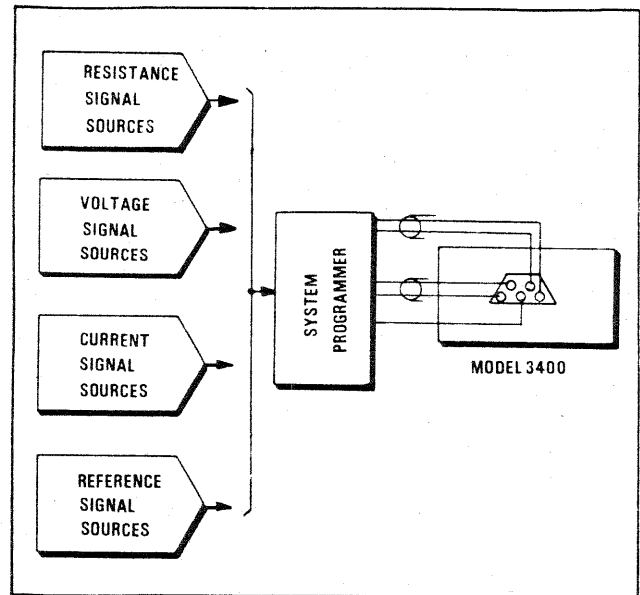

Fig. 2-8. Programming via Rear Input Connector
a. Input Signals may be connected to the rear input connector as shown in Figure 2-8, noting that external system programming may be used to switch the "reference" inputs from the normally guard-shortened function to active inputs when switching from ACV or DCV to Resistance and Ratio measurements.